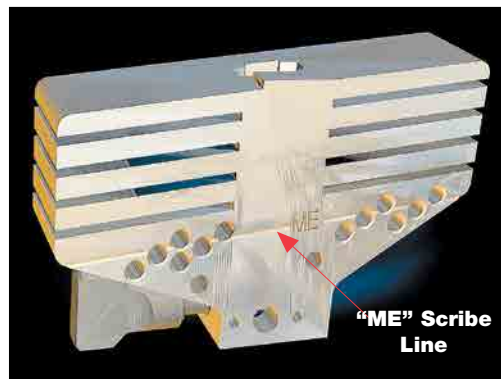

Figure 12
- Insert assembly into canal and align M/E scribe line on distal resection guide to medial epicondyle (**Figure 12**)